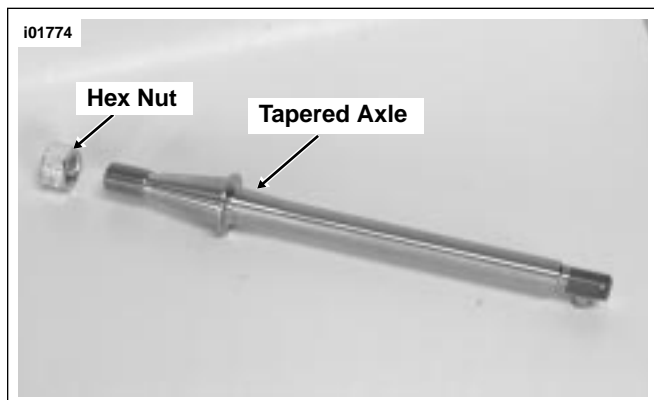

Figure 3. Stainless Axle
- See Figure 2. and Figure 3. If you have a stainless axle and hex nut, you do **not** need to replace the axle or hex nut. Proceed to the Credit Procedure instructions in this Service Bulletin.
15. See Figure 3. Coat **new** axle with a thin layer of Loctite® ANTI-SEIZE LUBRICANT.